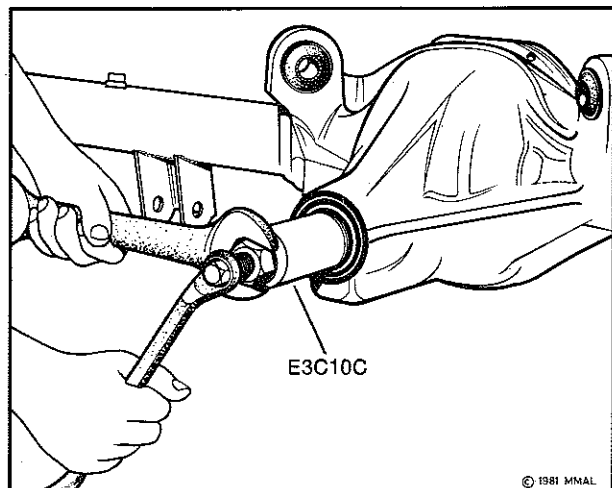

Fig. 19—Removing pinion oil seal
(9) Remove pinion oil seal with tool E3C10C, refer Fig. 19. Remove pinion front bearing and collapsible spacer.